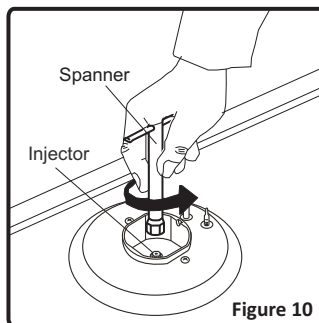

Figure 10
- Unscrew the injectors. For this, use a 7mm spanner (Figure 10).